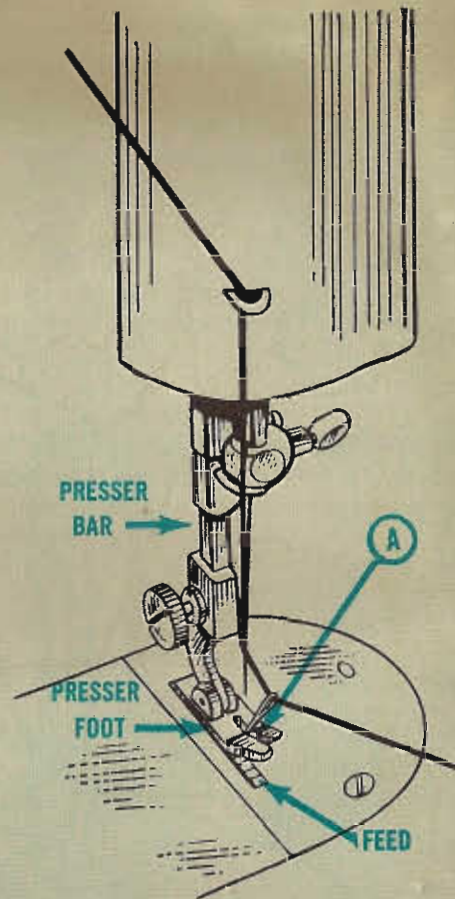

Fig. 9
Holding the loose end of the needle thread in your left hand, turn the balance wheel toward you by hand until the needle moves down and up again to its highest point. Pull the needle thread gently and the bobbin thread will come up with it through the needle hole (Fig. 9). If the bobbin thread does not rise, check to see if at least 3 or 4 inches of bobbin thread is hanging loosely from the bobbin case.
THEN PLACE BOTH ENDS OF THE THREAD BACK BETWEEN THE TWO PRESSER FOOT TOES (A) (Fig. 9).